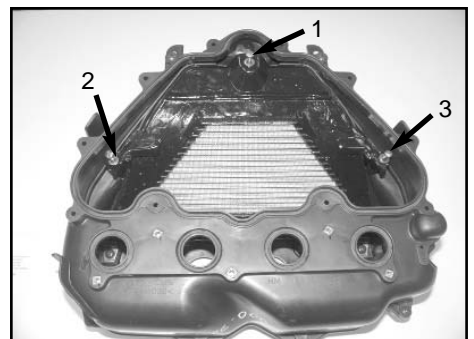

Fig. 3
- 4) Start each screw on the K&N Filtercharger® a few turns before tightening down. Follow the number sequence. (Fig. 3)